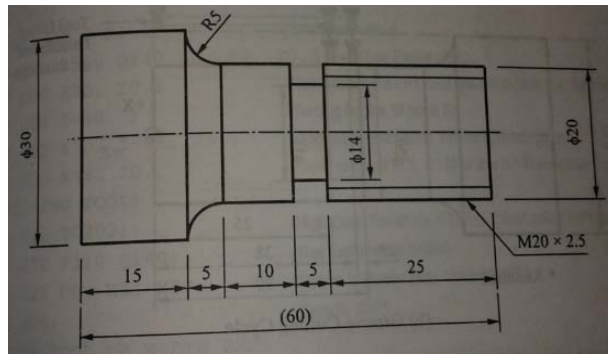

Fig.1
- (b) Develop a program using appropriate G and M codes to turn a MS bar of size and shape as shown in Fig.1. Use various canned cycles for roughing, grooving and threading operation. Assume suitable data for speed, feed and depth of cut. The raw material size is  $\phi 30 \times 60$  bar. **07**